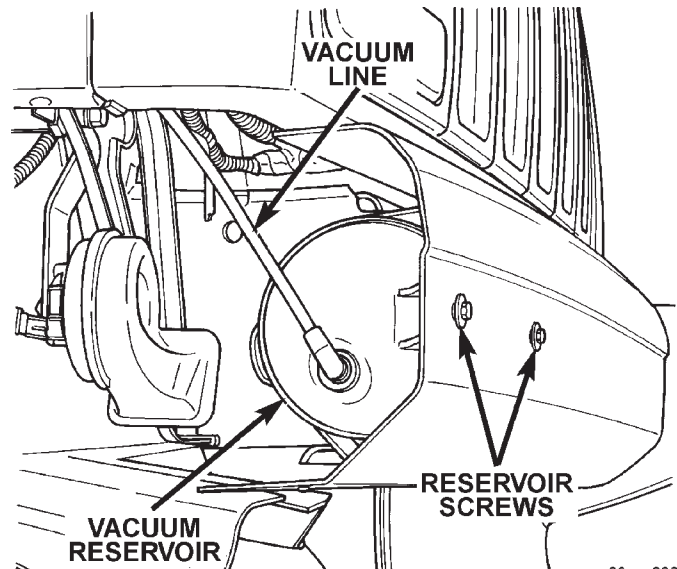

Fig. 3 Vacuum Reservoir
- (1) Remove bumper end caps.
- (2) If equipped, disengage fog lamp wire harness connectors.
- (3) Disconnect vacuum line from reservoir (Fig. 3).